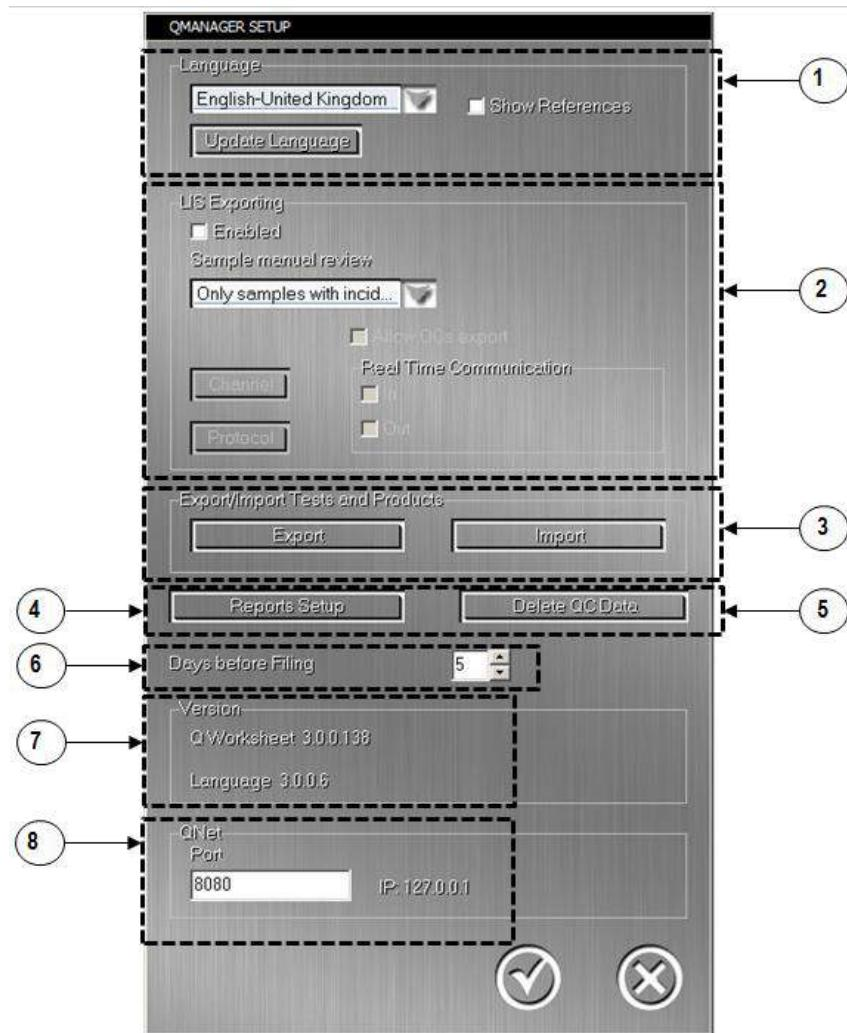

Figure 9.39. QManager Setup Window
- Go to the **Setup** option on the **Other Options** menu  of the **QManager** and press **Import** (Figure 9.39, no. 3).